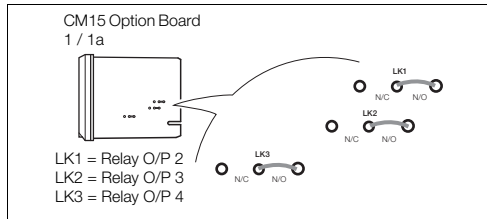

Fig. 4.11 Jumper Links for Relay Outputs – CM15 Indicator
1. The links associated with the relay outputs are shown in Fig. 4.11.